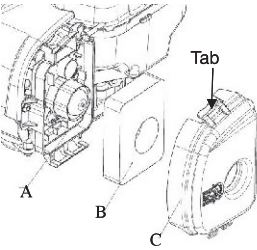

Fig. 10
1. Lift the tab on the cover and remove the air cleaner cover (C, Fig 10).
2. Remove the foam element (B).